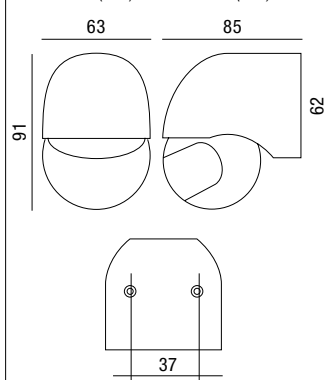

Fig. 1
**Collegamento:** morsetti a vite (Fig. 1)
**Connection:** Screw clamps (Fig. 1)